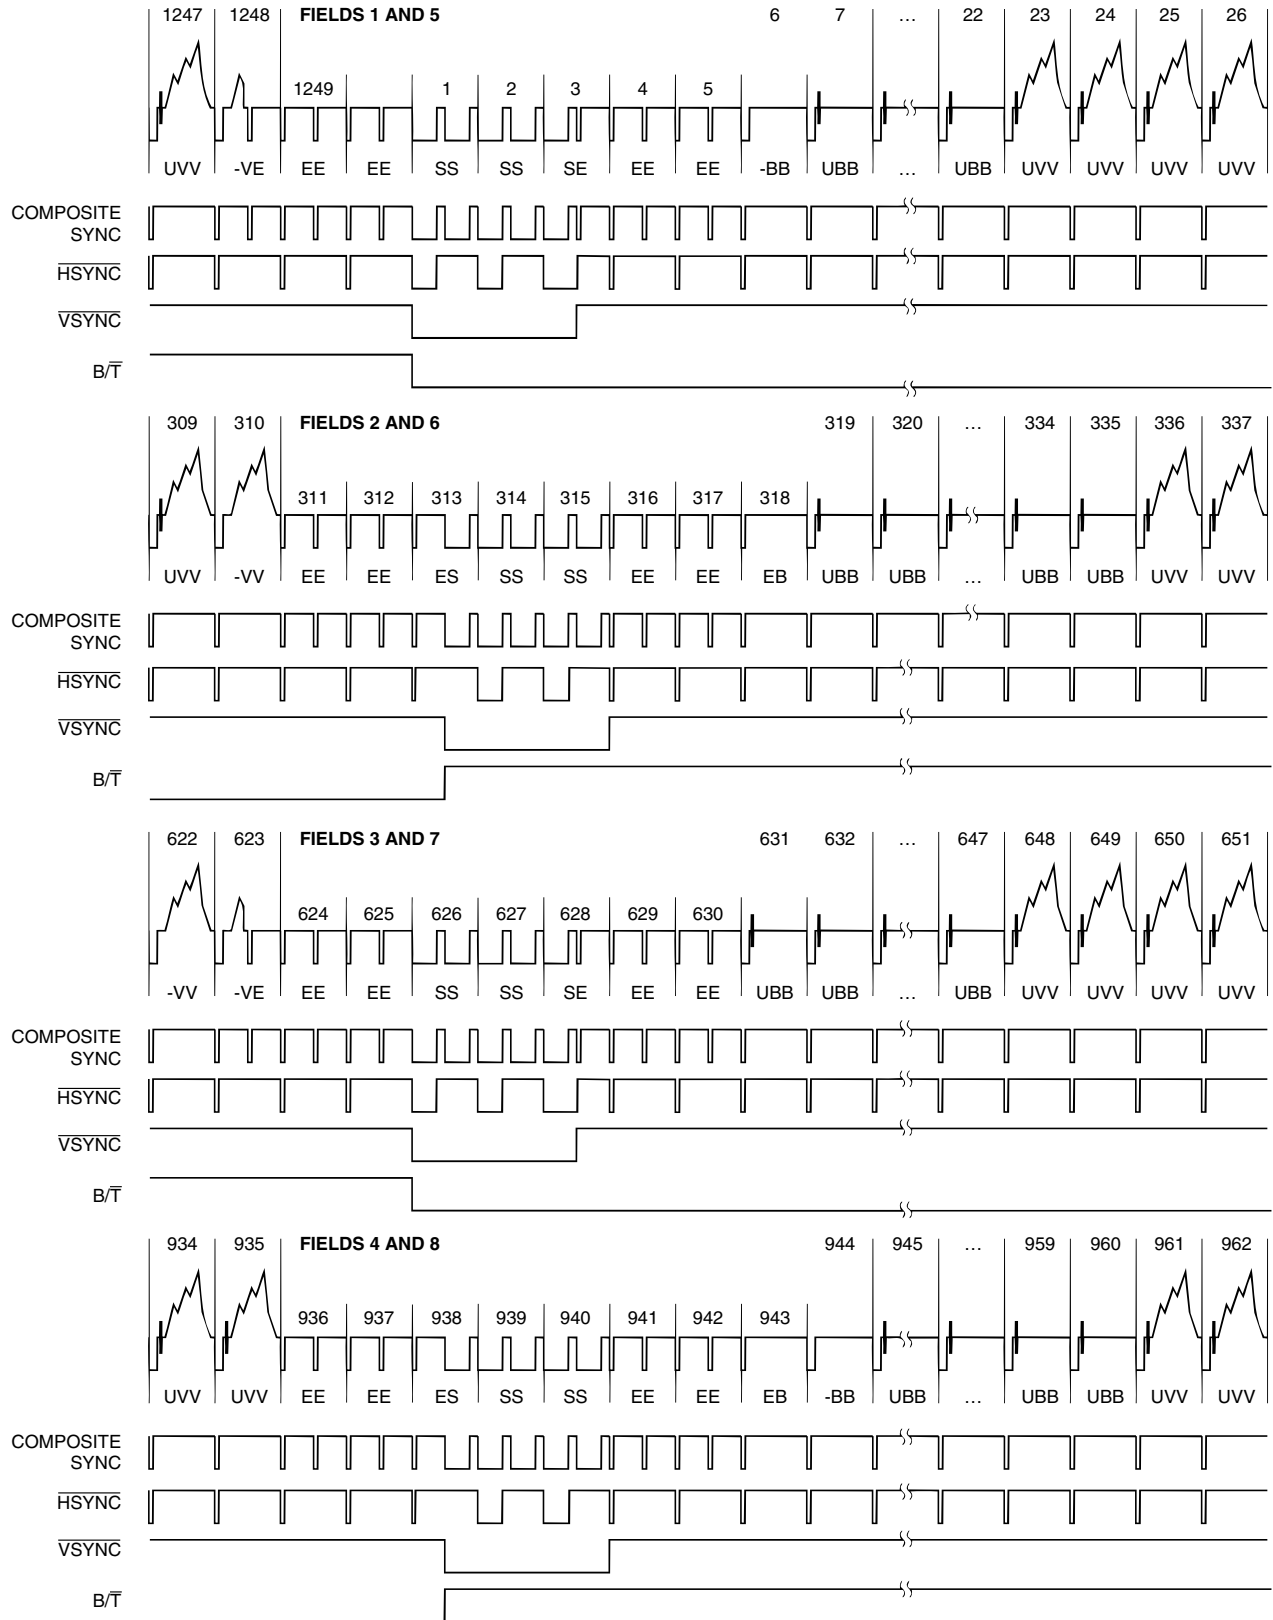

Figure 7. PAL-B,G,H,I,N Vertical Interval
- Line numbering is in accordance with Figure 6, Figure 7, and Figure 8. Subcarrier and color burst phase are relative to the horizontal reference of the line specified above.